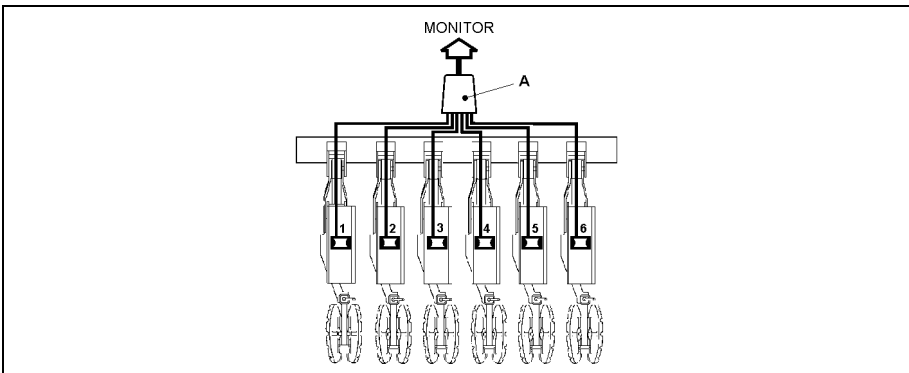

Figure 3. Installing the photocells.
- distribute the photocells cables on the seed drill air pipes, respecting the row numeration (Figure 3): Cable No. 1 corresponds to row 1 on the Monitor, the No. 2 cable row corresponds to No. 2 on the monitor, etc. ... It is important that we consider as "row No. 1" on the front row of the planter (starting from right or left) and the other are connected in sequence. Figure 3 is an example of application of a six-row wiring (cod.CAB-SEM-002) by selecting the first row of the left of the planter;
- fix the junction box (A) at the centre of the seed drill with some clamps held to the machine;